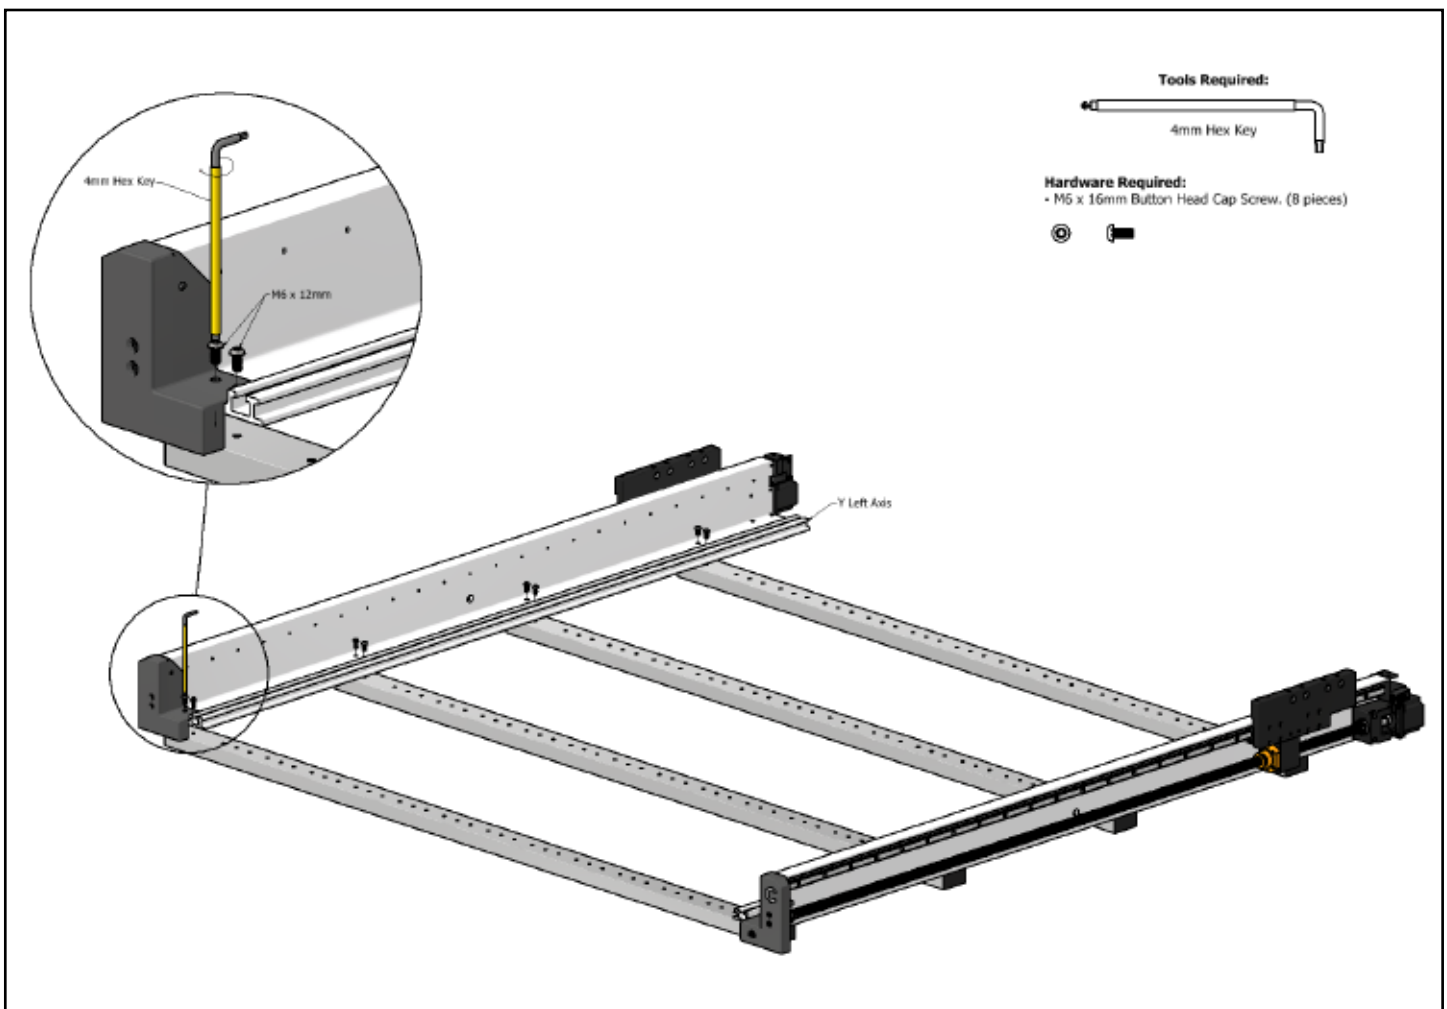

Figure 1-3
2. Set the Y-Left assembly on the left side of the baseframe. See **Fig. 1-3**.
3. Use a 4mm hex key and eight (8) M6×16mm BHCS to attach the assembly. See **Fig. 1-3**. Snug the screws but don't fully tighten.